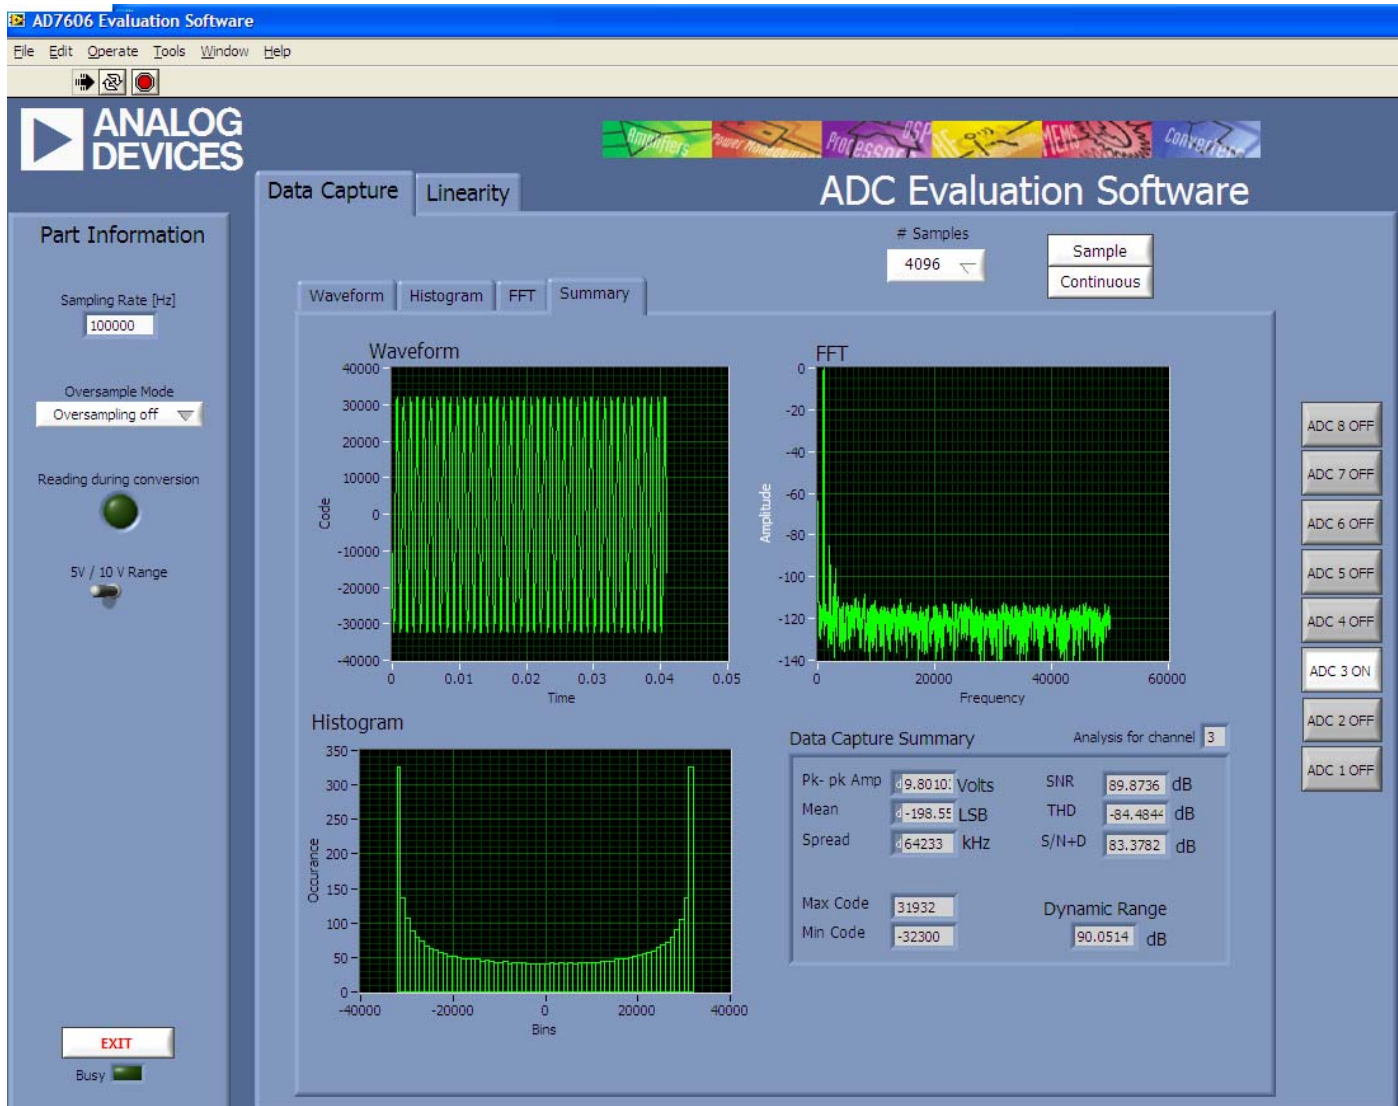

Figure 3. AD7609 Main Window
2. Click the **AD7609 icon**. Figure 3 displays the main window that is opened.
The software that controls the EVAL-CED1Z and, therefore, the AD7609 evaluation board, has two main windows. Figure 3 shows the window that appears when the software is run. The main function of this window is to allow you to read a predetermined number of samples from the evaluation board and display them in both the time and frequency domain. The top portion of the screen contains the menu bar and the screen can be divided into three main sections: **Part Information**, **Data Capture**, and **Linearity**. The **Data Capture** tab consists of four sub-tabs: **Waveform**, **Histogram**, **FFT**, and **Summary**. The **Linearity** tab enables you to generate a linearity plot for the device. **The Linearity tab is only available for the AD7609 version.**
The FFT tab displays an fast Fourier transform (FFT) plot. The FFT is typically used for examining the performance of the ADC in the frequency domain. The **Spectrum Analysis** section contains information about the samples taken, such as ac specifications (see Figure 3).